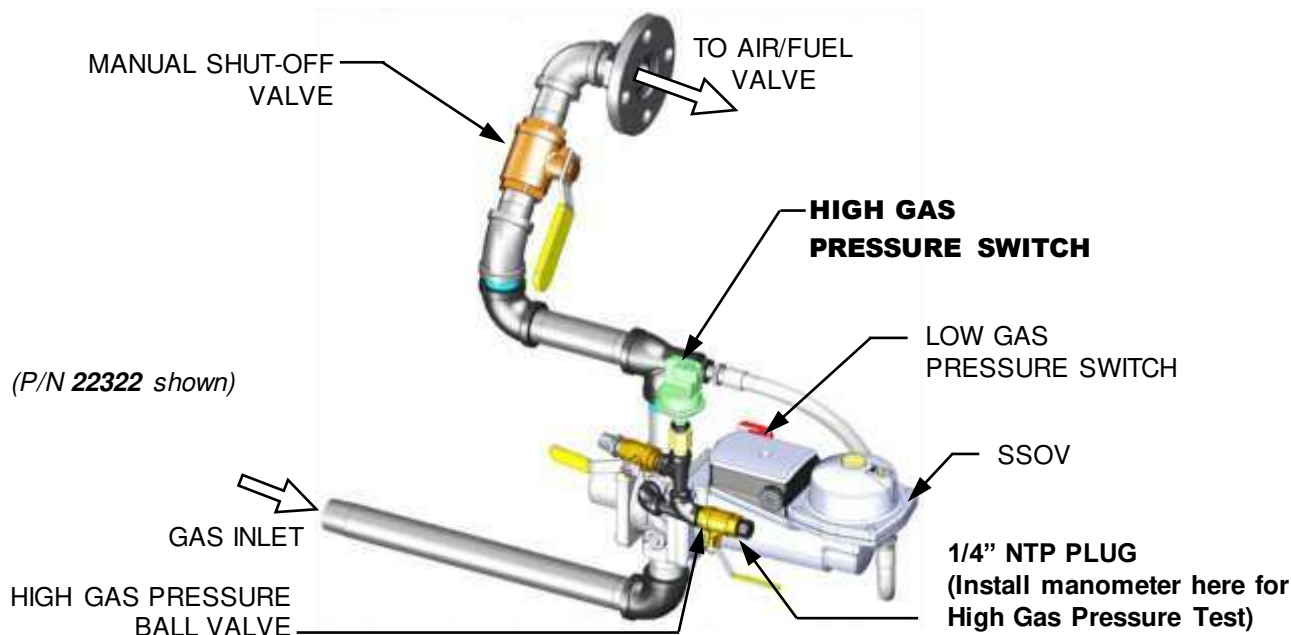

Figure 5-3a: BMK750/1000 HIGH Gas Pressure Test Components
2. Remove the 1/4" NPT plug from the High Gas pressure leak detection ball valve shown in Figures 5-3a through 5-3c.
5. Close the gas train's Manual Shutoff valve located between the Safety Shut-Off Valve (SSOV) and the Air/Fuel Valve, as shown on Figure 5-3a to 5-3c, above.
11. Once flame is proven, close the Manual Shutoff valve located between the SSOV and the Air/Fuel Valve (see Figure 5-3a to 5-3c, above).